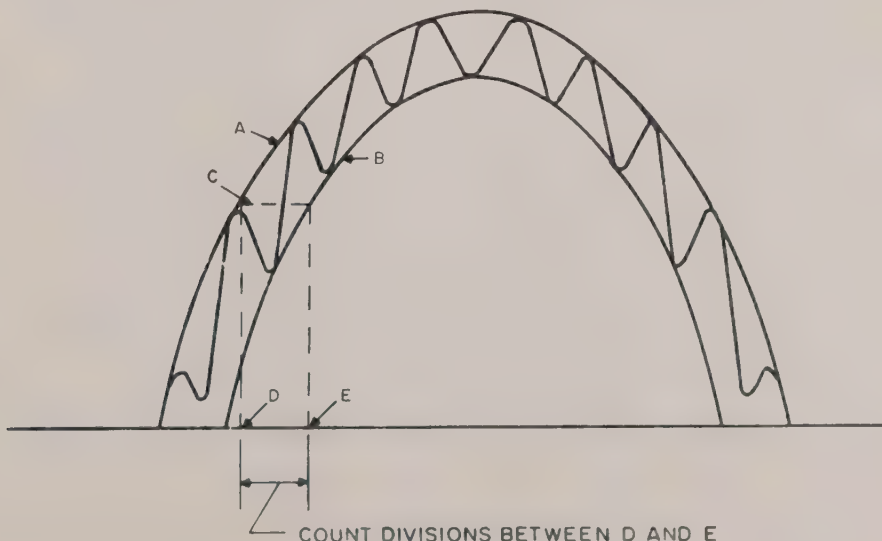

Figure 1. Measuring Incidental FM
(4) Set the SWEEP SPEED control to minimum (maximum counterclockwise).
(5) Draw two lines to indicate the pulse envelope. (See lines (A) and (B) of figure 1.) Draw a horizontal